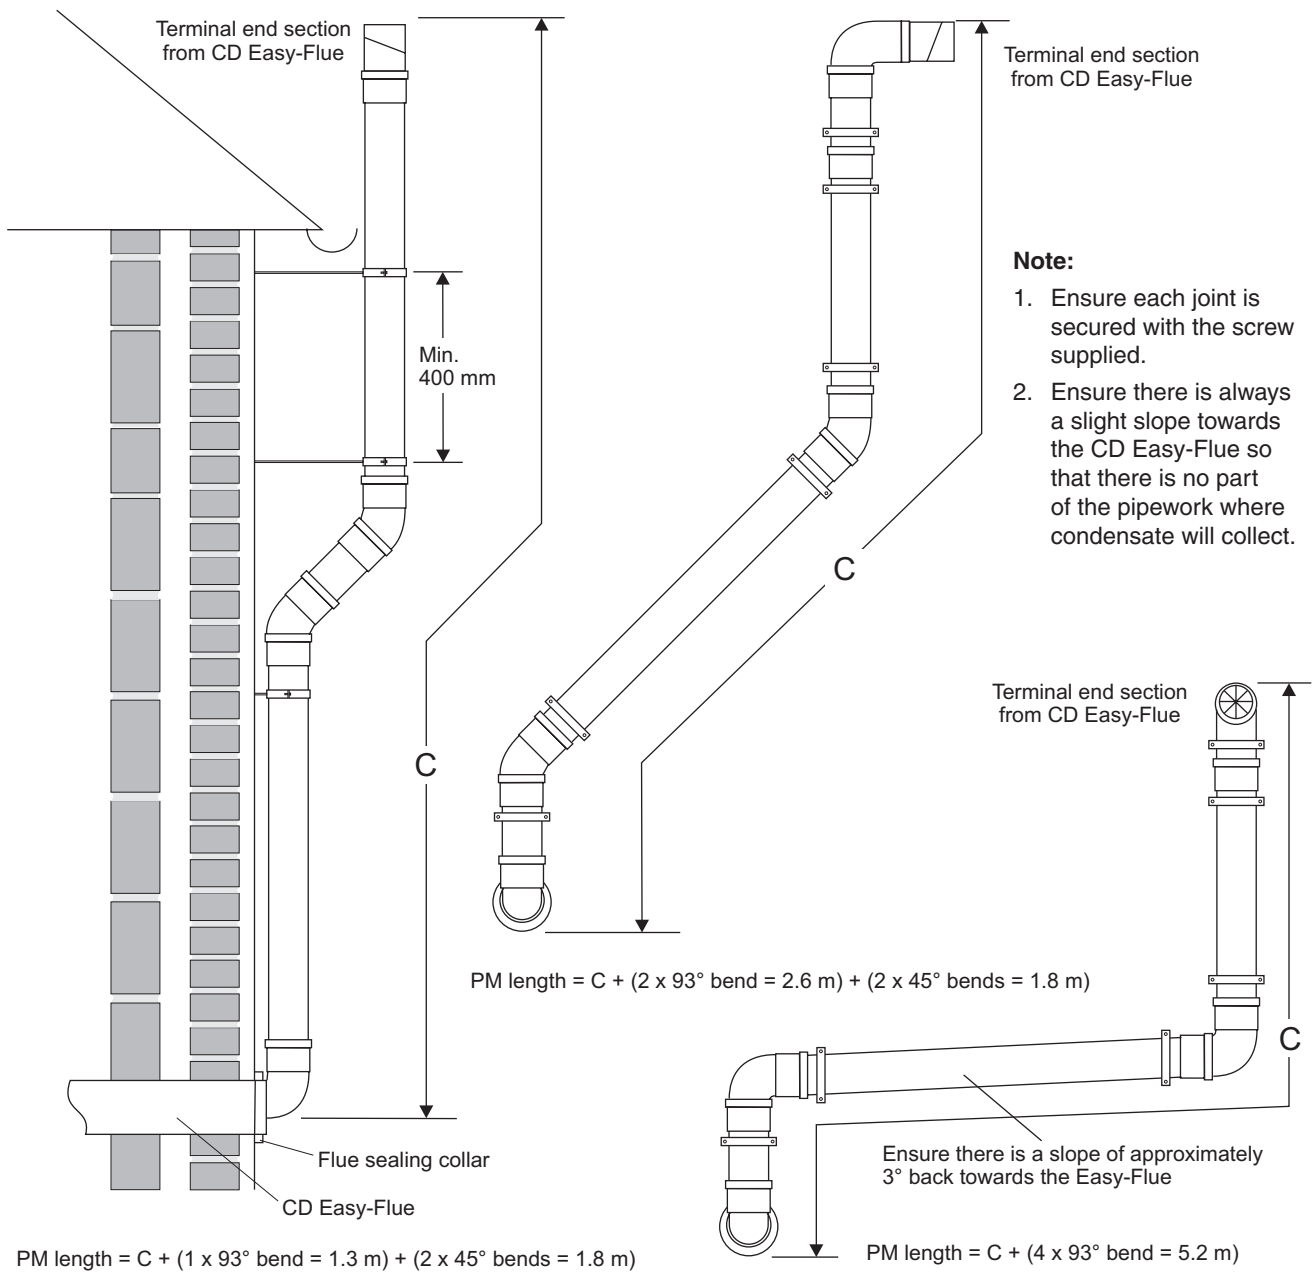

Fig. 22
- iii. Connect to the 93° bend the required Plume Management components as detailed and refer to Fig. 22.
- iv. Terminate the Plume Management pipework by fitting the terminal end section (push-fit) previously removed. Refer to Fig. 22.